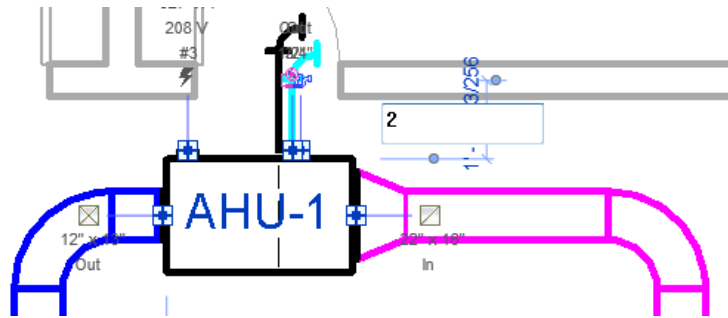

Figure 2-54
- Zoom in to the connectors/controls. Select the temporary dimension above the unit and change the *distance* to **2'-0"**, as shown in Figure 2-54.